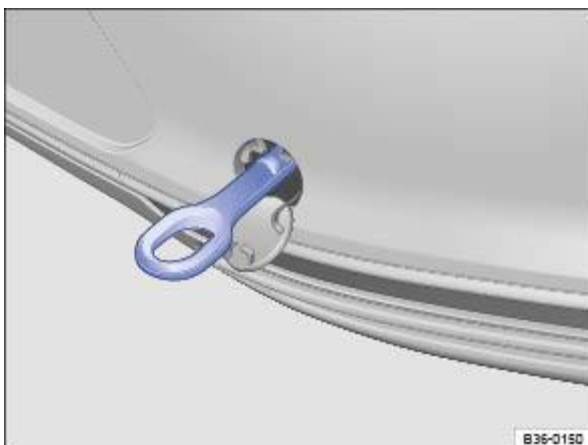

Fig. 179 On the right-hand side of the rear bumper: screwed-in towing eye.
- ❑ Turn the towing eye clockwise into the mounting ⇒ Fig. 179 and tighten as far as it will go ⇒  .